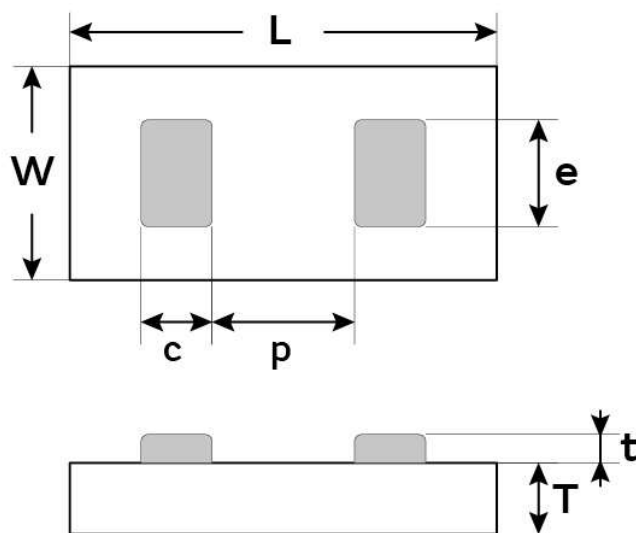

Figure 7 - Package outline drawing
- (1) Other Film Frame Carrier are possible on request
(2) ENIG (0.1µm Au / 5µm Ni) + SAC305 type 6
(3) Missing capacitors can reach 0.5%
(4) Refer to Figure 7